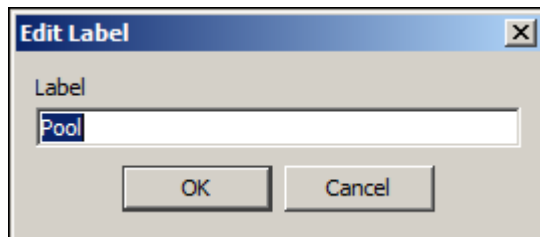

Figure 33: Edit Label
2. The **Edit Label** screen is displayed (see Figure 33).